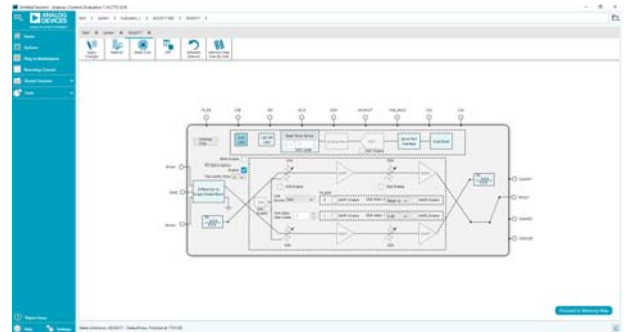

Figure 5. ACE Chip View
3. The software opens the **ACE** chip view as shown in Figure 5.